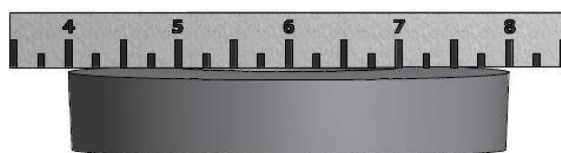

Figure 3 - Measuring for flatness
5. Check to make sure the gasket faces of the assembly are flat by placing a straight edge across the face. If faces are not flat, holder is not suitable for use (See Figure 3).